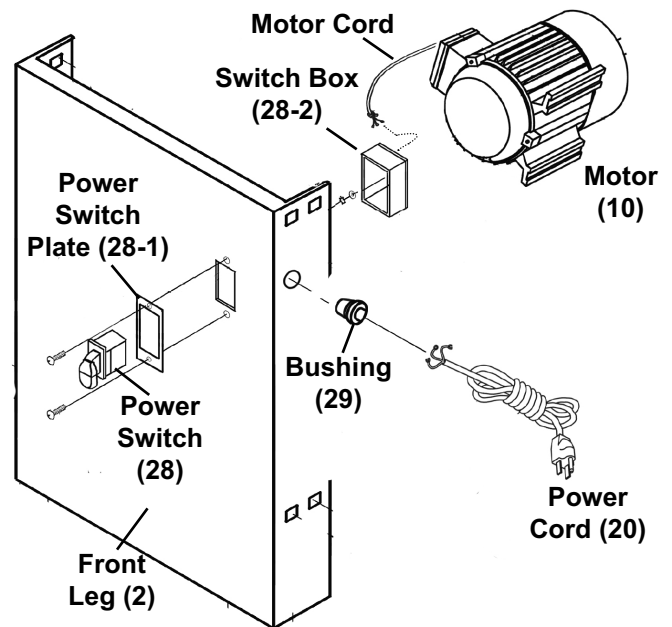
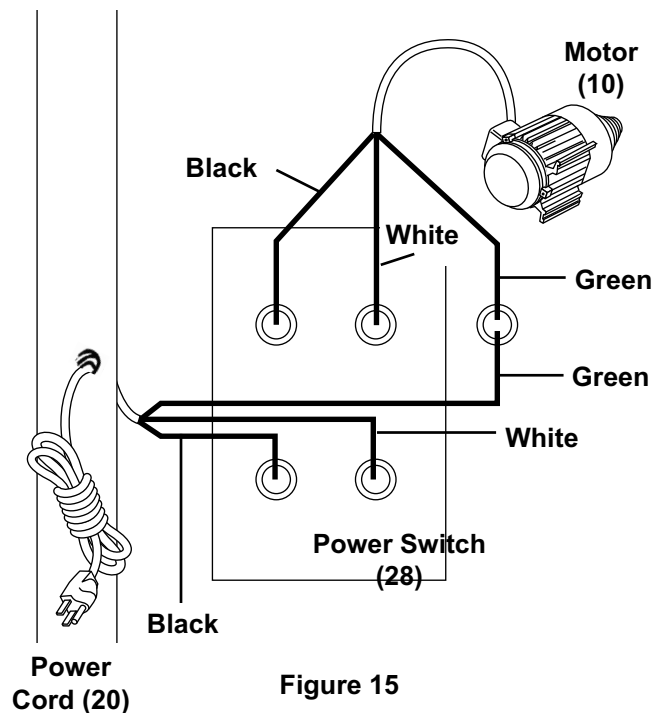

Figure 14
Figure 15
**NOTE:** See Figures 14 and 15 for instructions on connecting the Power Switch (28) and wiring the Power Cord (20).
1. See Figure 14 to feed the Power Cord (20) through the strain relief Brushing (29). Then feed the Power Cord through the hole on the side of the Front Leg (2). Be sure the Power Cord wires are long enough to reach the power switch hole plus a little slack.
3. Hold the Power Cord in place while pushing the strain relief Brushing (29) into the Front Leg side hole. Once in place, be sure Power Cord is secure to the Front Leg panel.
5. See Figure 15 to connect the Motor Cord and Power Cord wires to the Power Switch. On the Power Switch, connect the Power Cord wires to the bottom connections (black "hot" wire, white "neutral" wire, and green "ground" wire). Connect the Motor cord wires to the top connections. Be sure the wires colors line up top to bottom: Black with black, white with white, and green with green.
- Note:** The two green wires are attached to the screw to the right of the Power Switch. Tighten its Nut (27) to secure in place.
6. From the inside of the Front Leg (2), attach the Switch Box (28) to the back of the Power Switch. Secure Switch in place using Screws (23).